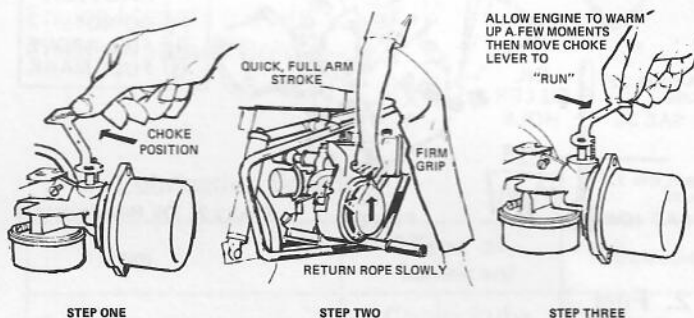

Figure 1. Engine Start Up
- STEP 9** Start engine according to steps one, two, and three in figure 1.